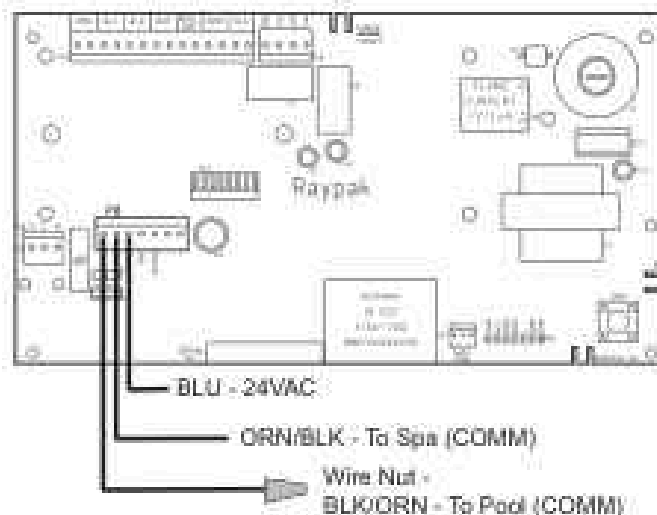

Figure 32. 2-Wire Remote Harness Installation on the P8 Connector, P-156 Only
7. Install the "7-Pin Remote Interface Harness" to the P8 connector and turn power "On" to the heater. See Figure 32.